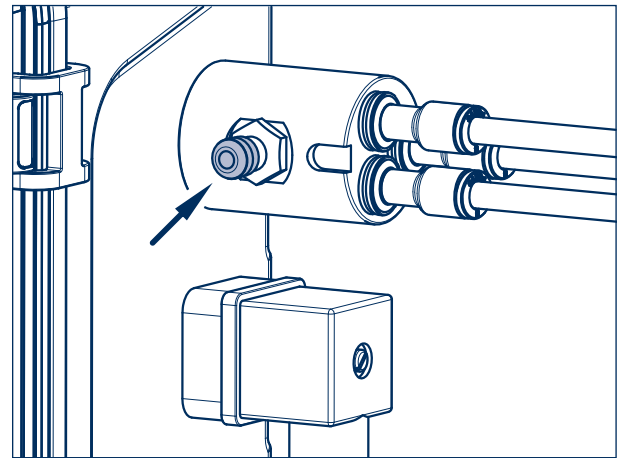

Figure 15
- [1] Remove cap on the pressure connection (arrow, Figure 15).